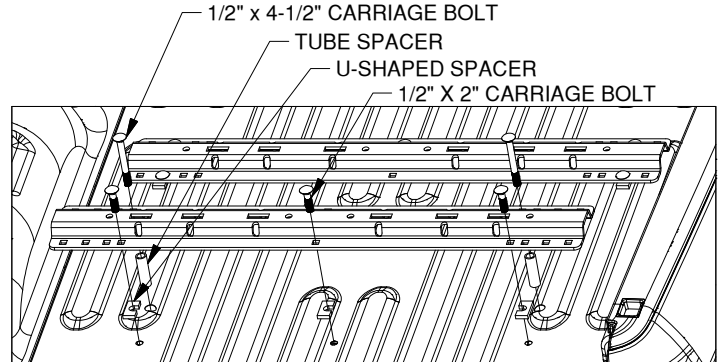

Figure C3: View looking down into the bed from rear of truck.
4. **Place the rear mounting rail.** Locate the two tube spacers, place a tube spacer into each of the 7/8" drilled holes. Re-position the rear mounting rail over the drilled 9/16" and 7/8" holes in the bed. Install two 1/2" x 4-1/2" carriage bolts into the two forward drilled positions (7/8" holes over the cross member) and install three 1/2" x 2" carriage bolts through the three rear drilled positions, as shown in Figure C3. Place a U-shaped spacer between the bed and the mounting rail at the three rear drilled positions.